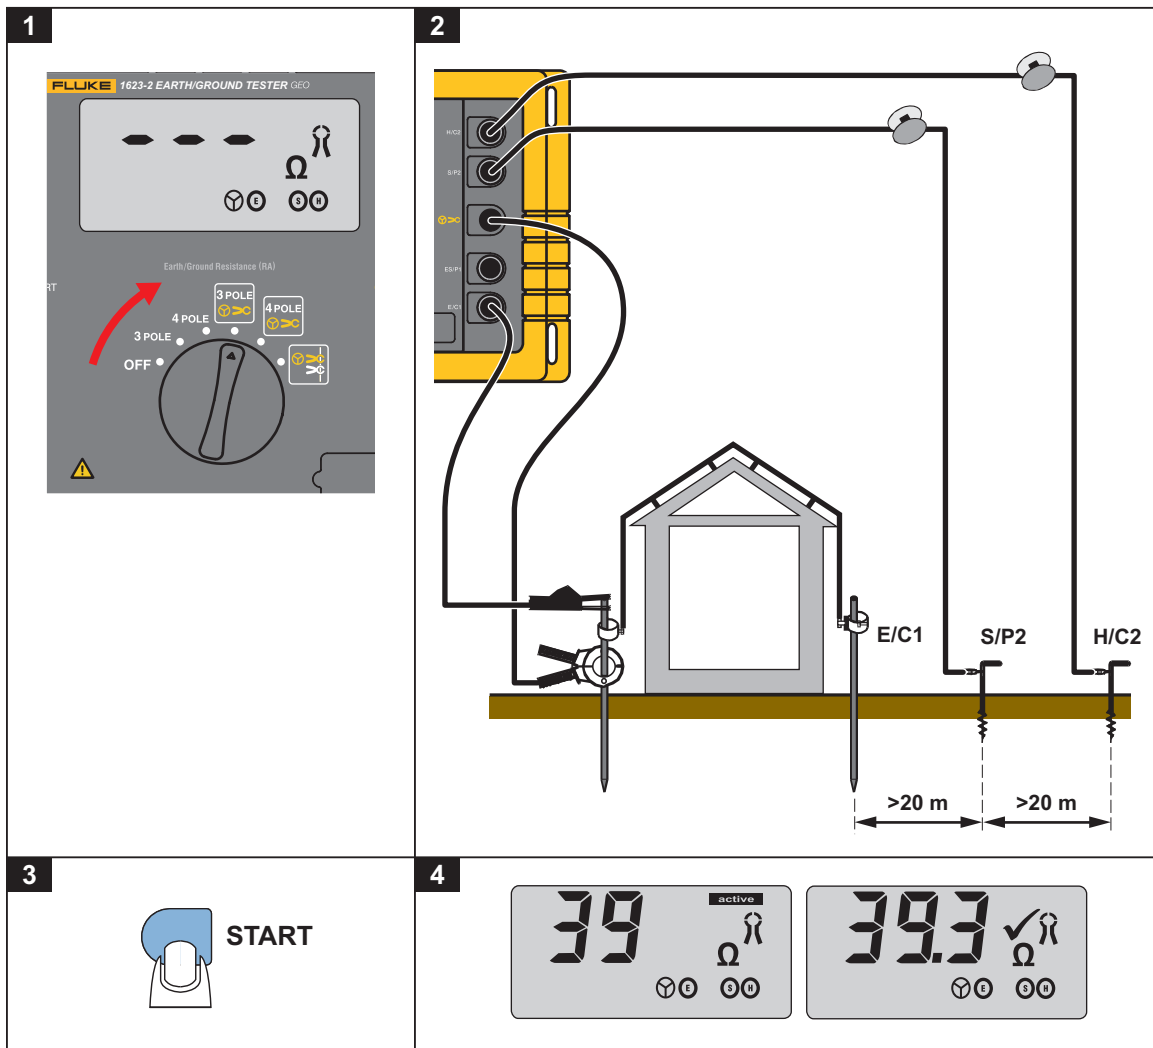

Figure 6.  $R_A$  3-Pole Selective Earth Resistance Measurement with Current Clamp
1. Select **3 POLE**  **>C**. See Figure 6.